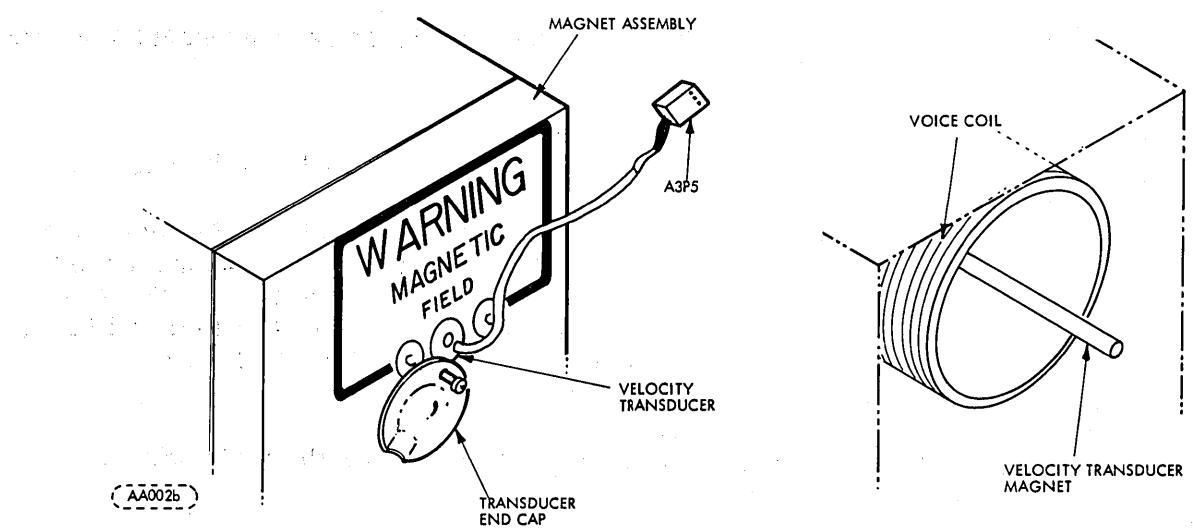

FIGURE LE2-2. VELOCITY TRANSDUCER LOCATION
12. Remove velocity transducer end cap and velocity transducer (see Figure LE2-2).
8. Install velocity transducer and velocity transducer end cap (see Figure LE2-2).